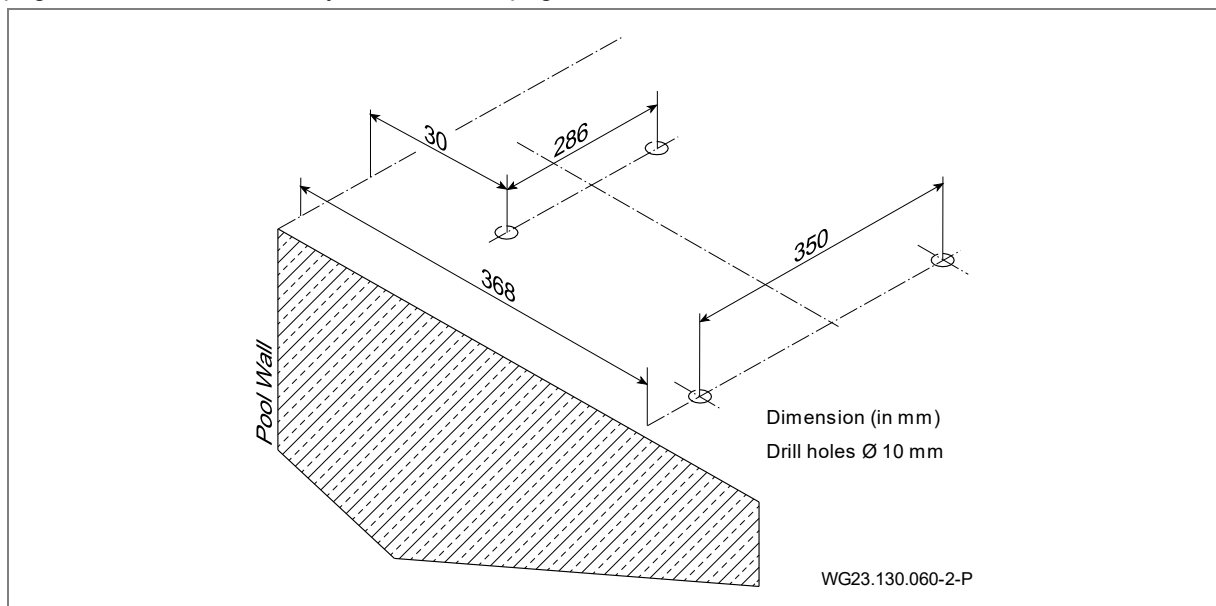
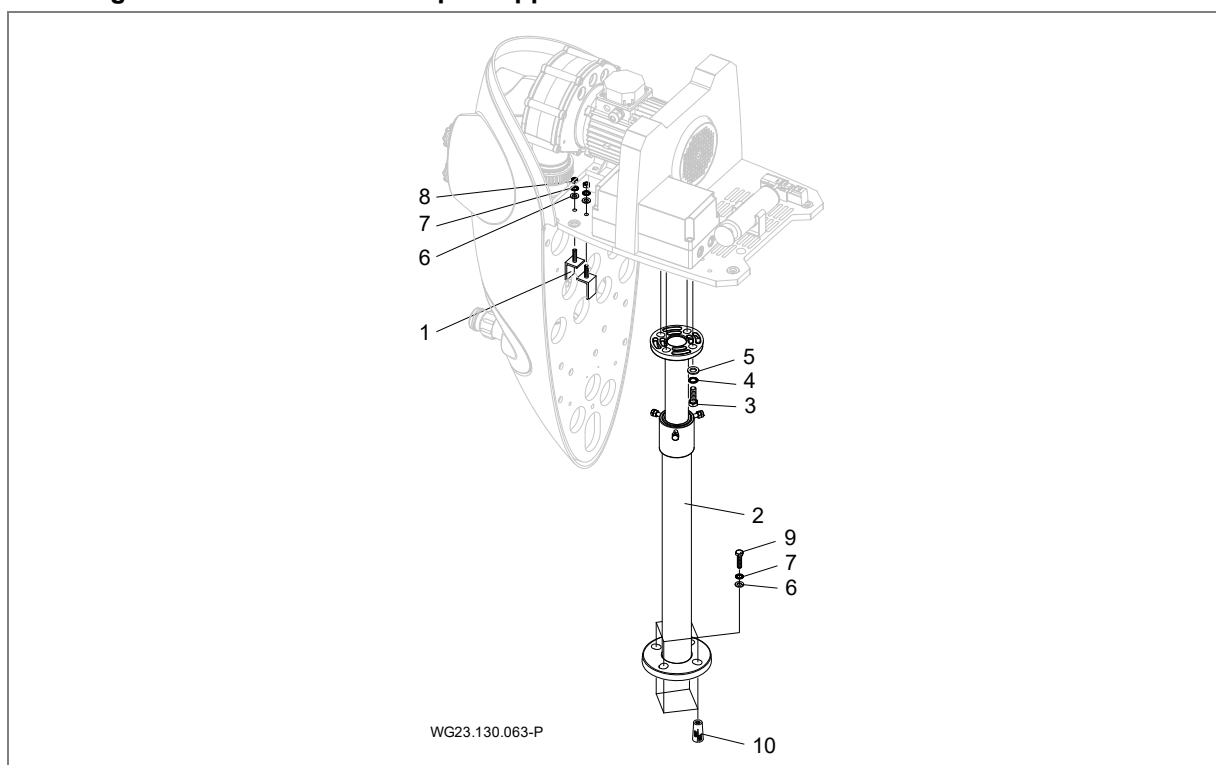
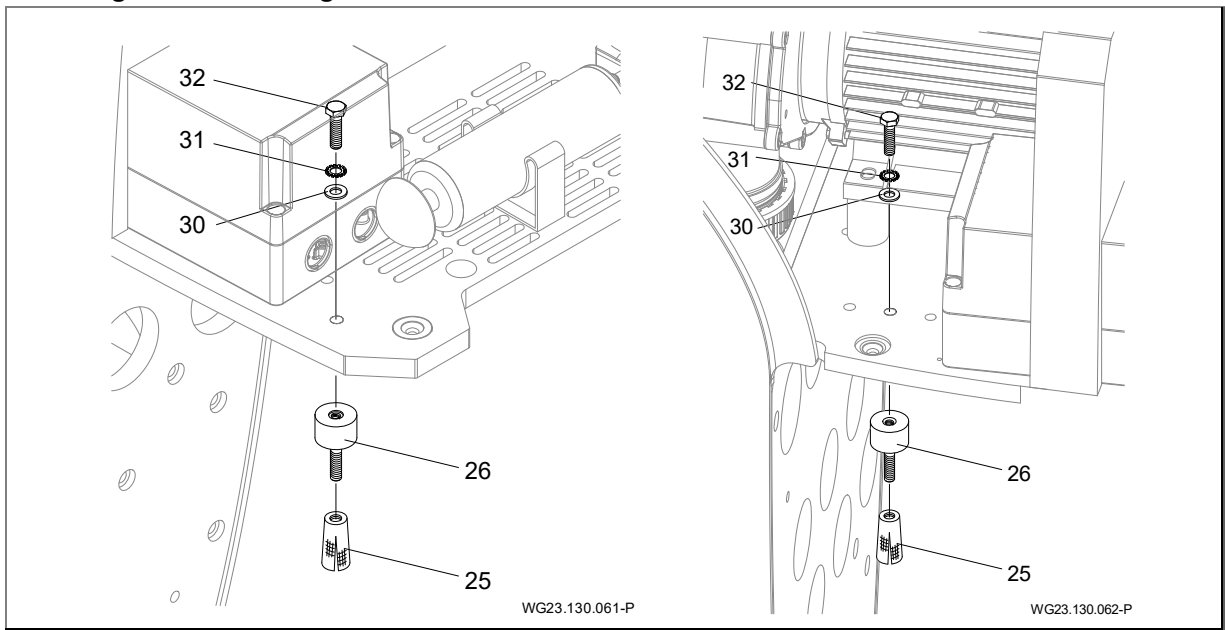

Fig. 23
Fig. 24
Fig. 25
- Select the assembly site and prepare it in accordance with "Fig. 23" on page 45. If the unit is being used in an above ground pool, the telescopic support foot must be used, for attachment instructions see "Fig. 24" on page 45.
- Lift the unit and drill the Ø10 mm holes on the markings. See "Fig. 23" on page 45.
- Set the unit on the metal vibration buffers and secure it with hexagonal bolts (32), toothed locked washers (31) and flat washers (30). See "Fig. 24" and "Fig. 25" on page 46.